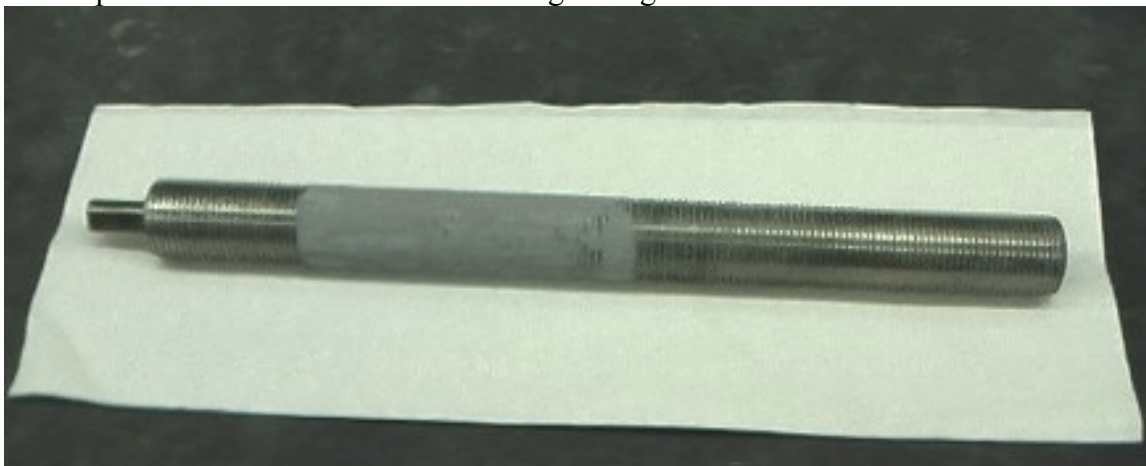

Figure 1 Loaded screw with 1.4 inch offset after drying
6. Position the screw horizontally above aluminum/ plastic weighing dish containing material. Apply the dry material with a short bristled brush against the threads of the screw. Turn the screw while applying the material. The screw should be loaded with material from the offset to a pre-selected length down the screw; 3 inches are loaded for example shown in Figure 1.